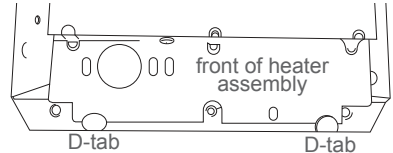

Figure 5
4. Turn the heater back around and insert the bottom edge of the heater assembly into the D-shaped tabs at the bottom of the wall can (See Figure 5).